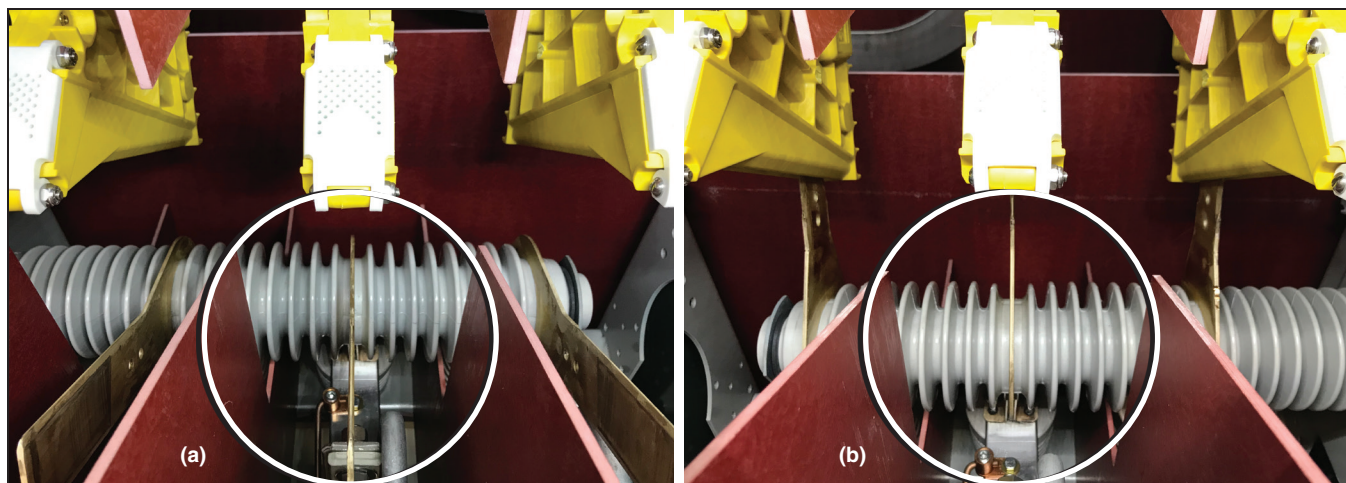

Figure 12. (a) Shows the switch in the Open position, and (b) shows the switch in the Closed position.
- STEP 5.** Check the physical position of the switch by using the viewing window provided in the switch-termination compartment. See Figure 12.